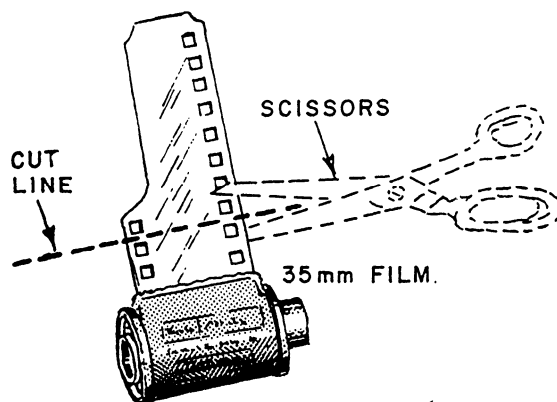
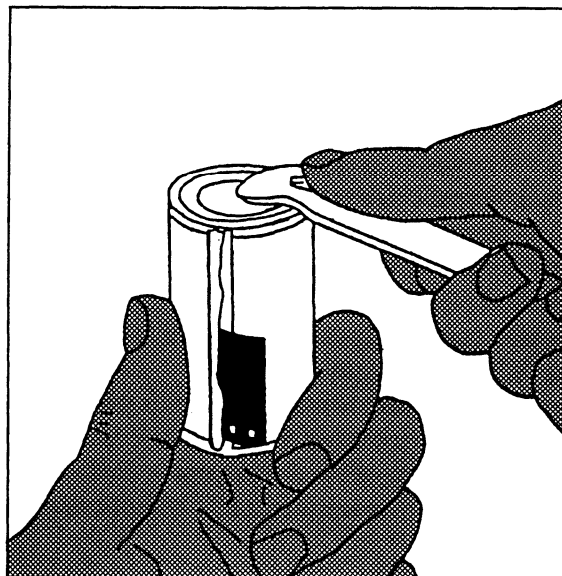

Figure 11-26.—Cutting leader (loading tab) from 35mm film.
Figure 11-27.—Opening a 35mm film cassette with a can opener.
2. Pick up the film cassette. If a short length of film is left protruding from the 35mm cassette when the film is rewound, you do not have to open the cassette to remove the film. The leader or loading tab on 35mm film can be cut off square (in the light, if you desire) to ease loading, as shown in figure 11-26. However, if the leader is enclosed within the cassette, remove the flat bottom of the cassette with a can opener, as shown in figure 11-27; then cut off the leader as previously described.